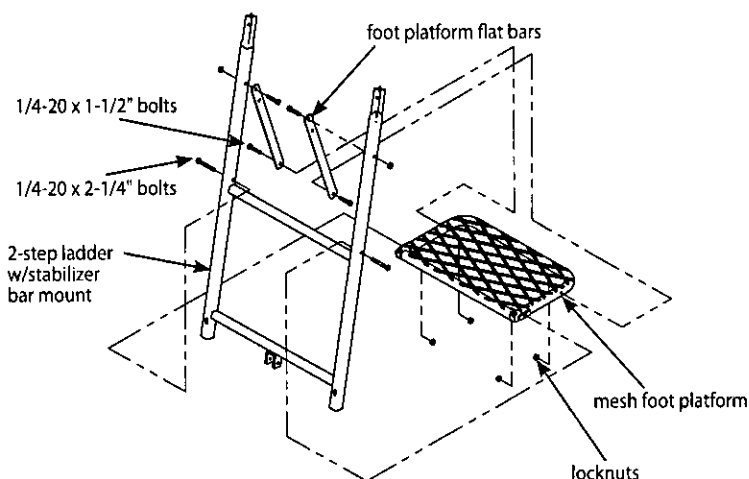

Figure 1
1. Attach the foot platform (1ML61), mesh side up, to the 2-step ladder section w/ stabilizer bar mount (SL64) using (2) provided 1/4-20 x 2-1/4" bolts and locknuts. **SEE FIGURE 1. DO NOT** tighten all nut & bolt assemblies completely!
2. Attach the foot platform flat bars (AL7) to the foot platform and to the inside of top ladder section side rails using (4) provided 1/4-20 x 1-1/2" bolts and locknuts. **SEE FIGURE 1.**